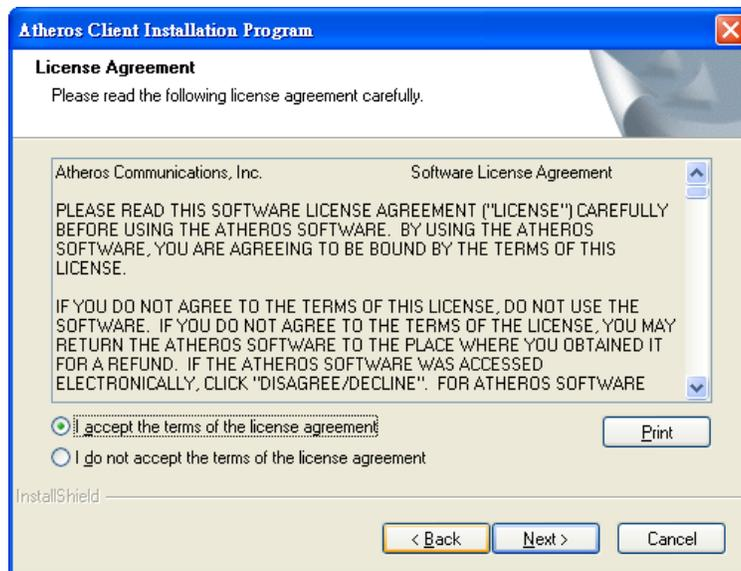

Figure 6-27: Atheros Wireless LAN Driver License Agreement
Step 5: The License agreement in **Figure 6-27** appears.